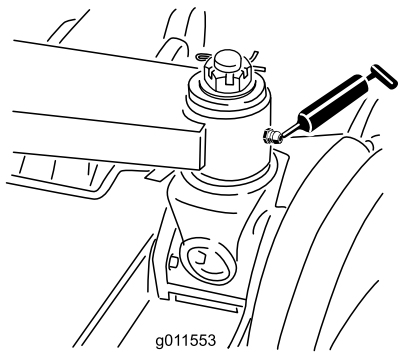

Figure 67
- Main lift arm bushings (6) (Figure 66 and Figure 67)